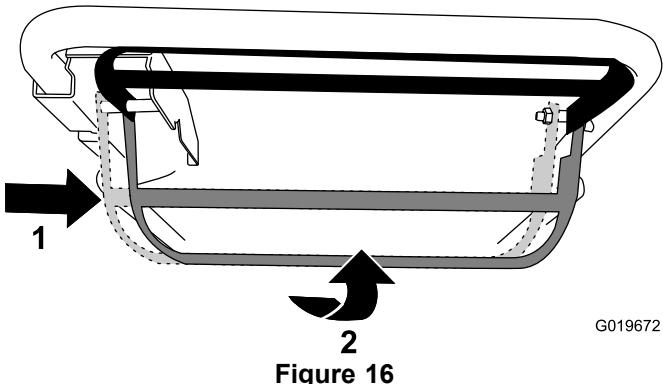

Figure 16
- **To operate the self-propel drive and engage the blade:** Move the blade-control bar all the way to the right and raise it to the handle (Figure 16).